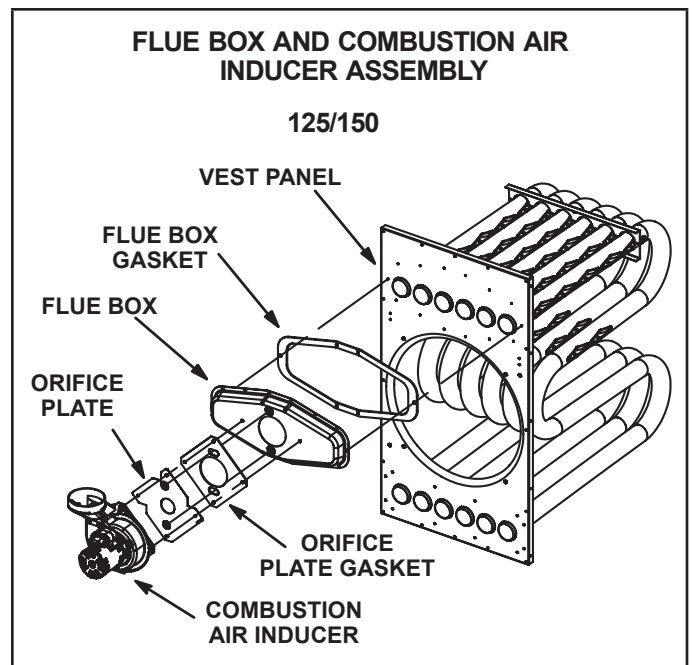

FIGURE 5
- 3 - Before making an electrical or gas connections, use a socket to remove the four screws which secure the combustion air inducer to the flue box. See figure 5.